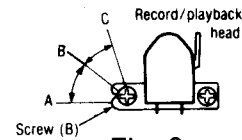
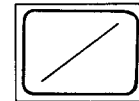

Fig. 3
Fig. 6
2. Playback the 8kHz signal from the test tape (QZZCFM). Adjust screw (B) in fig. 3 for maximum output L-CH and R-CH levels. When the output levels of L-CH and R-CH are not at maximum at the same point adjust as follows.
- Turn screw (B) shown in fig. 3 to find angles A and C (points where peak output levels for left and right channels are obtained). Then, locate angle B between angles A and C, i.e., and point where L-CH and R-CH outputs are balanced. (Refer to figs. 3 and 4.)
- Playback the 8kHz signal from the test tape (QZZCFM). Adjust screw (B) shown in fig. 3 so that pointers of the two VTVMs swing to maximum and a lissajous waveform as illustrated in fig. 6 is obtained on the oscilloscope.